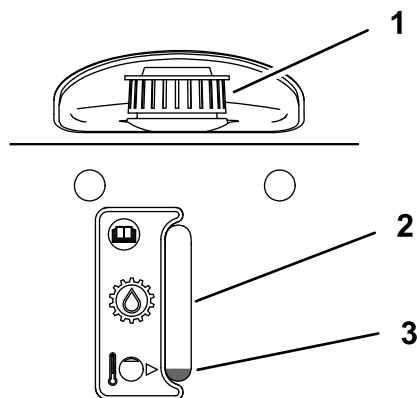

Figure 47
4. Use the sight window to check the fluid level in the expansion tank (Figure 47).
13. Add hydraulic fluid to the expansion tank until it reaches the fluid line (Figure 47).